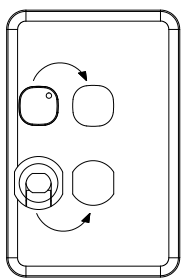

Fig 1: Identify holes location
- Note the holes on the supplied wall plate are different sizes and shape, refer to Fig 1 for positioning.